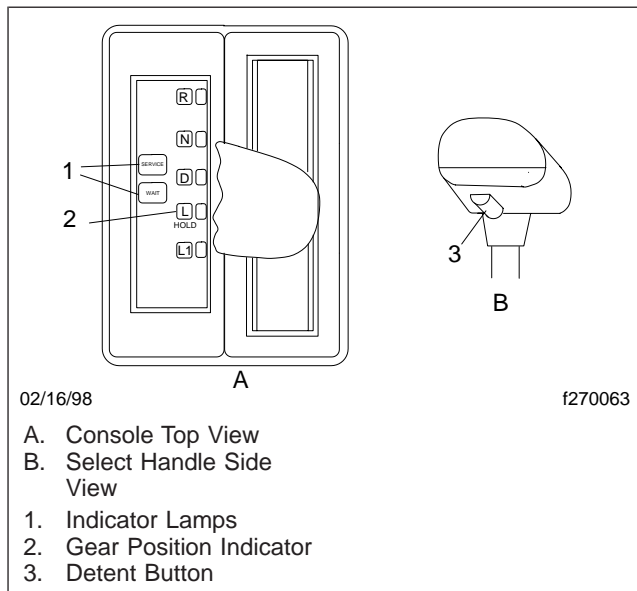

Fig. 8.13, Standard Driver Command Console (DCC)
- The Standard DCC (Fig. 8.13) has indicators for the three forward positions: Drive, Low (2nd gear), and Low1 (1st gear), plus Reverse and Neutral positions. Service and wait lamps are also located on the console. The gear select handle contains only a gear select lever detent button.